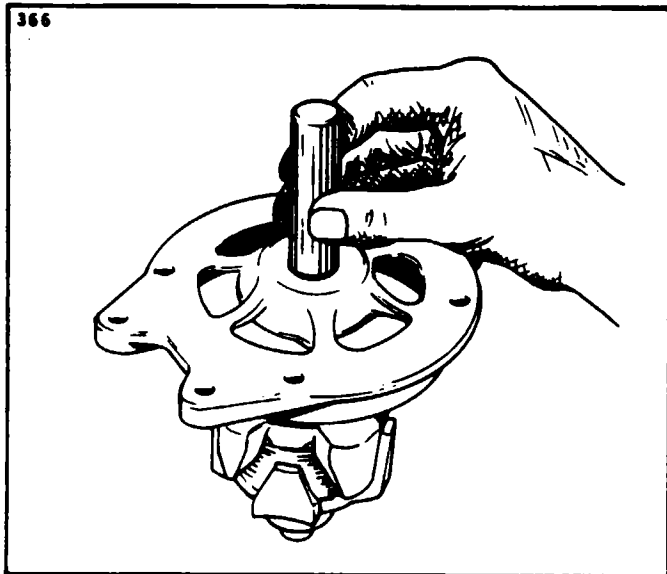

Figure 11-11. Installation of Bearing
a. Press the ball bearing into the drive end head using a flat block approximately two inch square so that the pressure is exerted on the outer race of the bearing. Install the retainer plate. With the snap ring and retainer cup in place on the rotor shaft, use a tool that fits over the shaft and against the inner bearing race, and press until the inner bearing race is against the snap ring retainer cup. (Refer to Figure 11-11.)